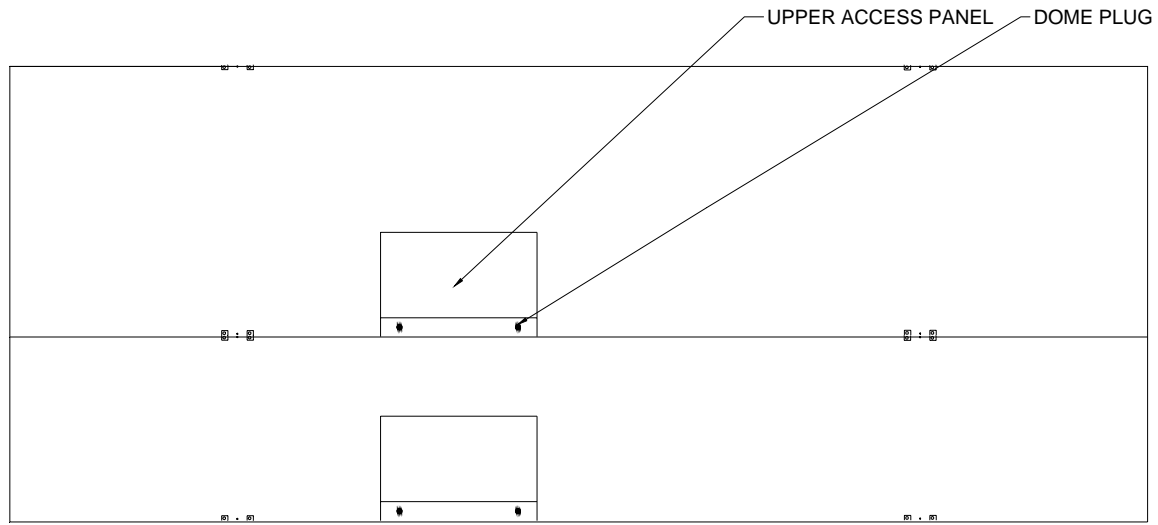

Figure 8 Upper Section Rear Access Panel
1. Remove the rear access panel of the upper scoreboard section and the dome plugs on the plate below the access panel. Figure 8 shows the location of the upper rear access panel and the dome plugs.